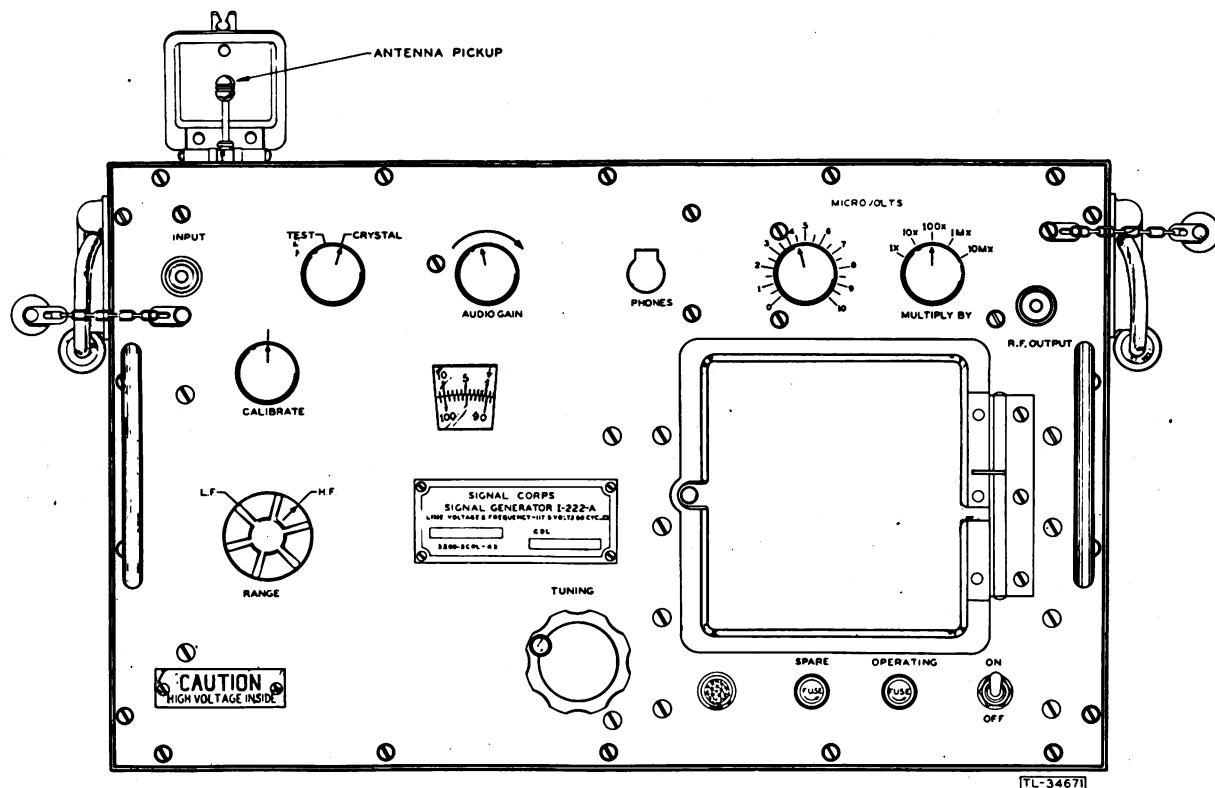

Figure 2. Signal Generator I-222-A, front panel.
four subassemblies) housed in an olive drab finish, cold rolled steel cabinet. Handles mounted on each end permit easy handling and moving of the apparatus. All controls on the front panel are clearly labeled (fig. 2). Provision is made through a phone jack for plugging in a set of headphones. Input and output receptacles, protected by screw caps, are used for close coupling. Power is supplied through a detachable line cord which plugs into a male receptacle mounted on the rear of the chassis. Access is also given through the rear of the chassis to a screw control of the trimming capacitor of the crystal oscillator tank.
- b. Plug in the headphones to the jack marked PHONES in the top center of the operating panel (fig. 2).